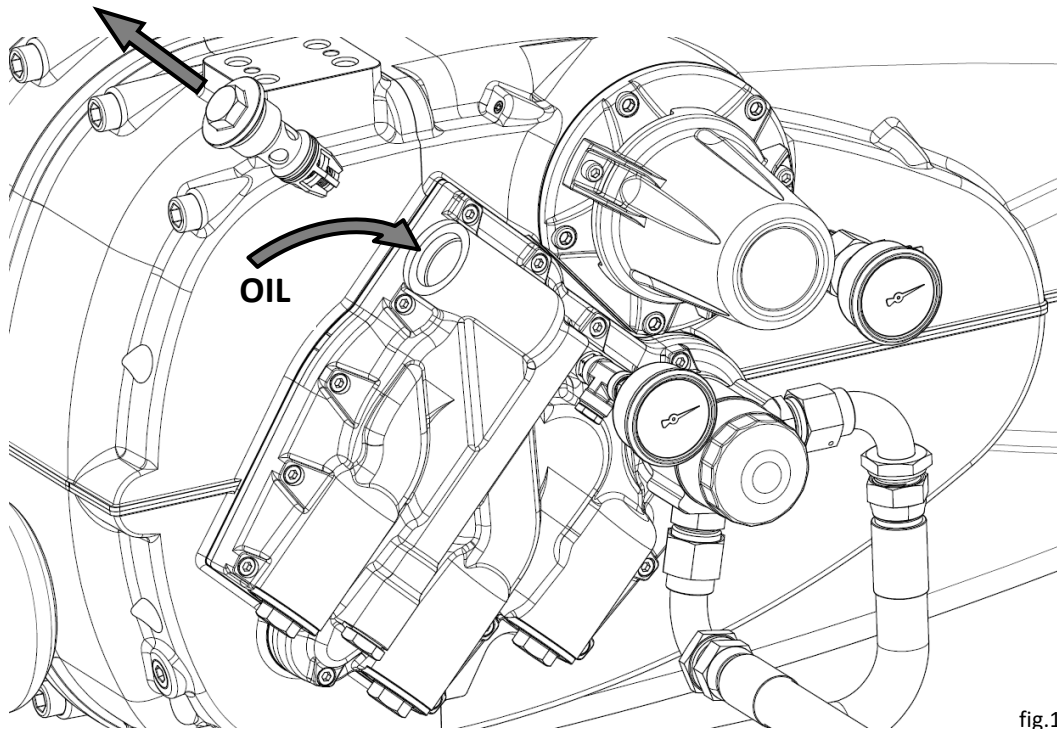

fig.15
- Remove the cartridge complete with delivery valve from the oil pump casing and fill the line with lubricating oil using a syringe or other tool (fig. 15).